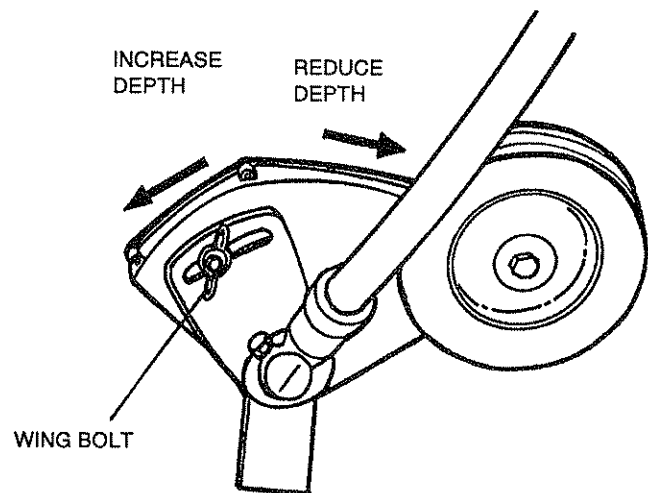

Figure 6
- Adjust blades' depth of cut by loosening the wing Bolt, moving the guard toward the operator to reduce depth or away from the operator to increase depth, and then retightening the Bolt. Figure 6.